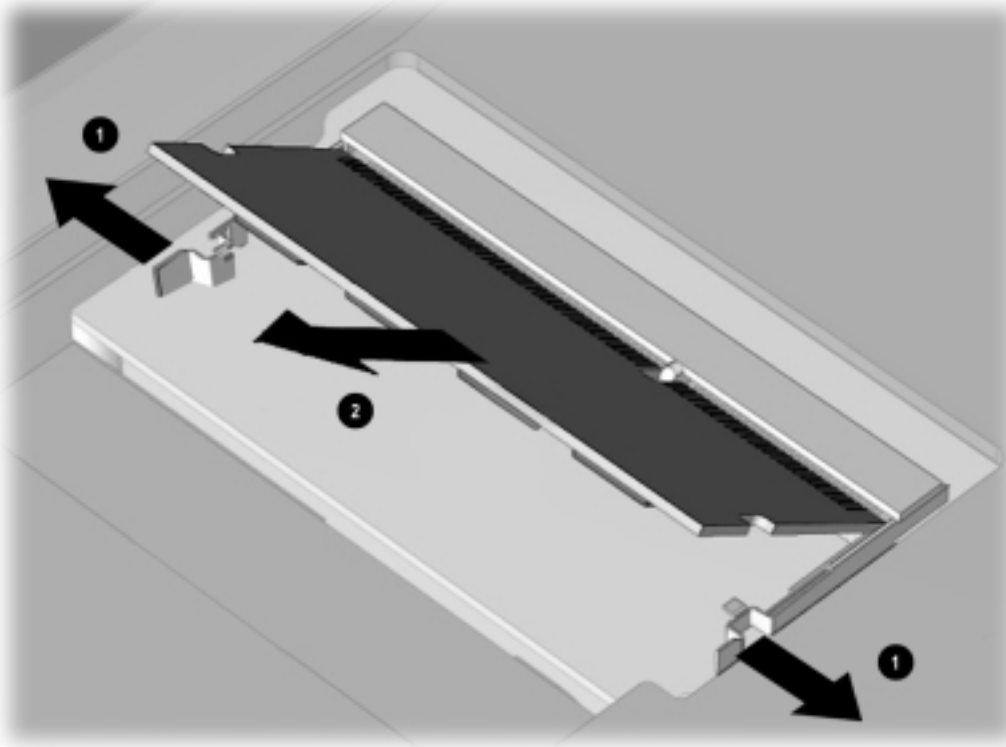

Figure 5-16. Removing the Memory Board
1. To remove the memory board, pull away the plastic retention clips on each side of the memory board ❶. The memory expansion board tilts upward (Figure 5-16).
2. Lift the edge of the memory expansion board and slide it gently out of the memory expansion slot at a 45-degree angle ❷.